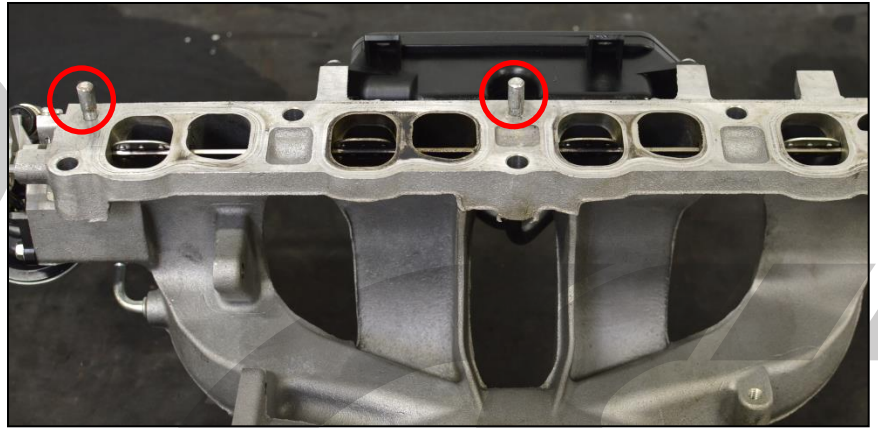

Figure 7a
- a) Remove alignment pins from stock intake manifold using a tight vice grip. Alignment pins marked with red circles in Figure 7a.